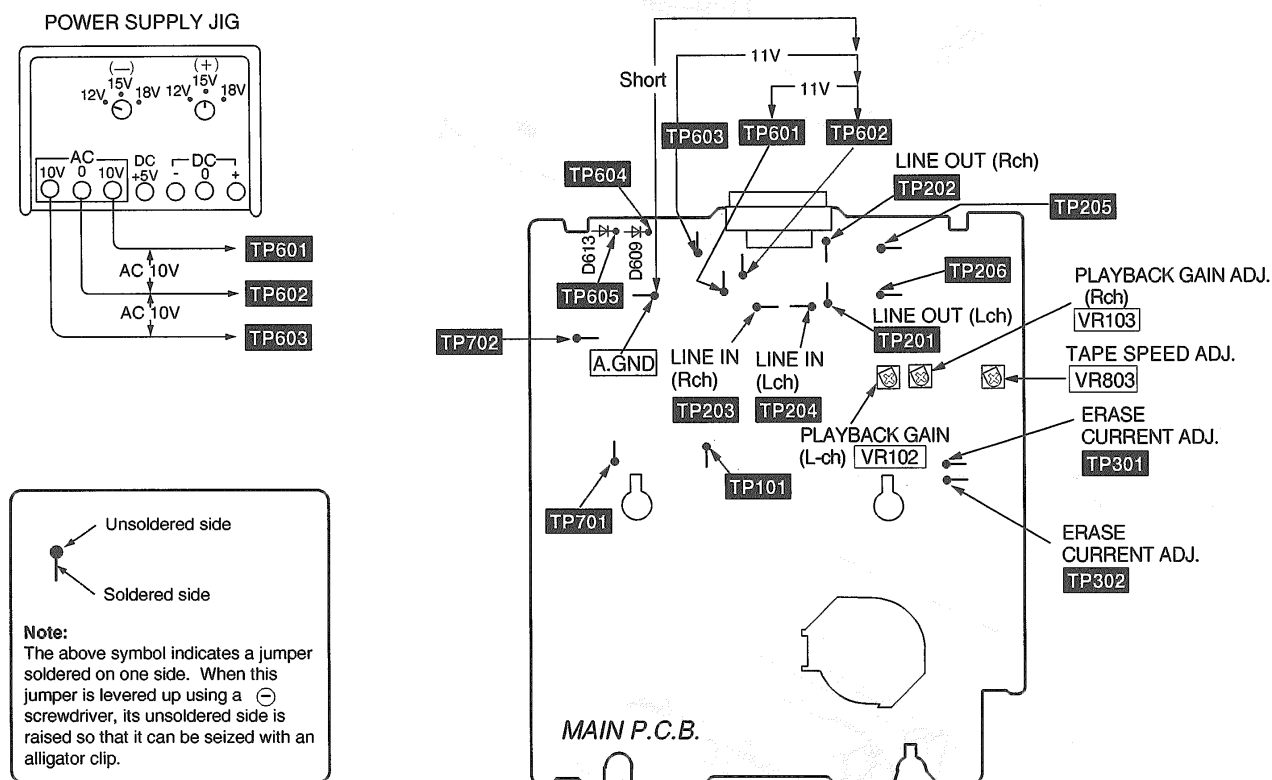

Fig. 1
3. Adjust VR803 for the output value shown below. (Refer to Fig. 1)
3. Adjust VR102 (Lch) [VR103 (Rch)] so that the output is within the standard value. (Refer to Fig. 1).